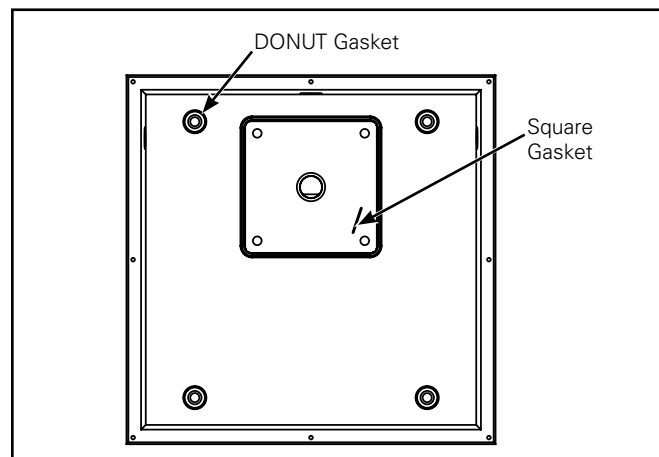

Figure 11.
5. Peel the backing from each of the four donut gaskets and apply them to the back side of the cast housing at each of the four mounting holes (gasket has adhesive on one side). Use the square gasket to seal cast housing to J-Box (Figure 11).